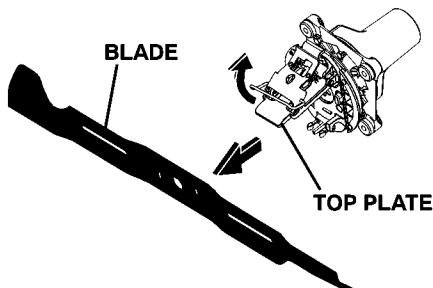

Fig. 30
- Open the top plate and remove blade. (See Fig. 30.)